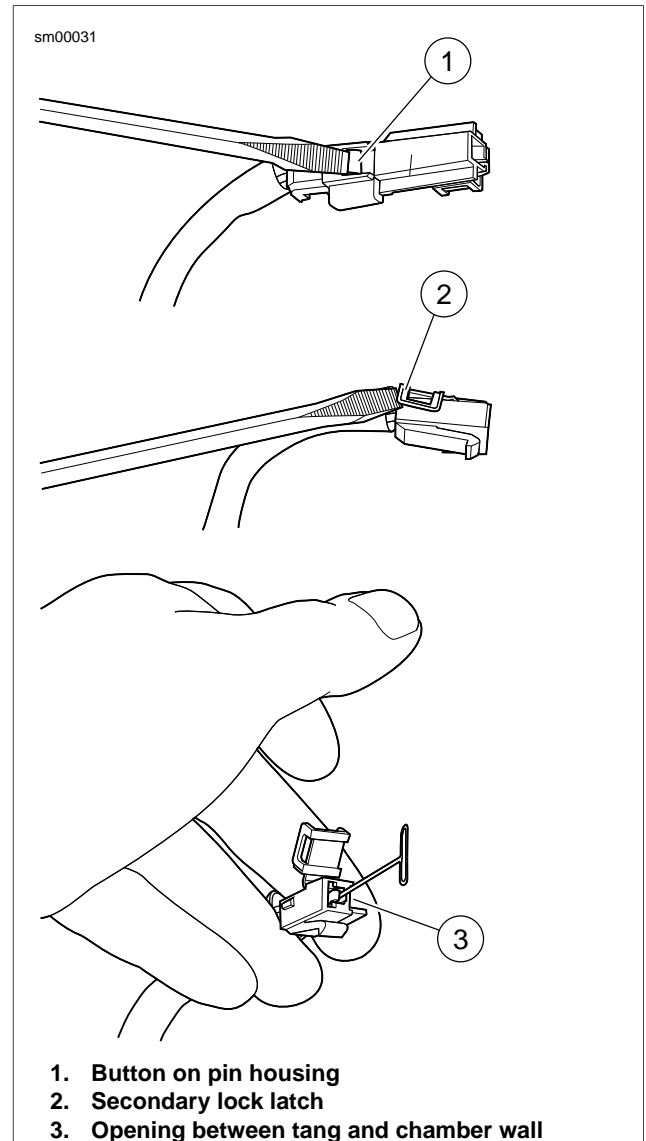

Figure A-43. 480 Metri-Pack Connector: Remove Socket Terminal
See Figure A-43. Using small flat blade screwdriver, depress button (1) on pin housing (red wire) side of the connector and pull apart the pin and socket housings.
1. See Figure A-43. Bend back the latch (2) slightly and free one side of secondary lock, then repeat to release the opposite side. Rotate the secondary lock outward on hinge to access terminal in chamber of connector housing.
2. On the mating end of the connector, note the tang in the square shaped opening centered next to the terminal. Gently insert the point of a stick pin or large safety pin into the opening (3) between the tang and the chamber wall until it stops.